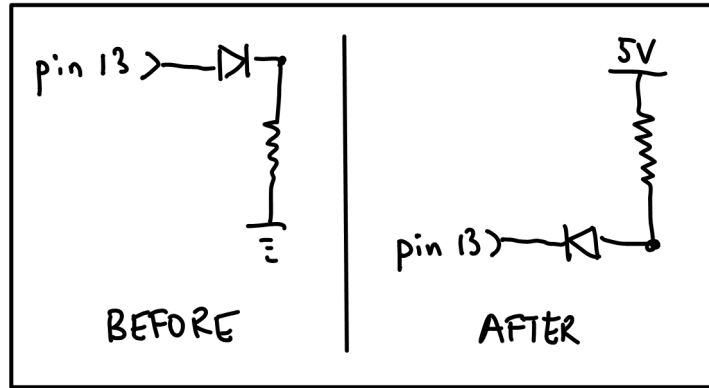

Figure 1: A different LED circuit.
3. Without changing your code, rewire the circuit as shown in Figure 1. **Be sure to remove the GND wire to avoid a short circuit!** How long is the LED on now when you run the program? Why? Is pin 13 sourcing or sinking current?